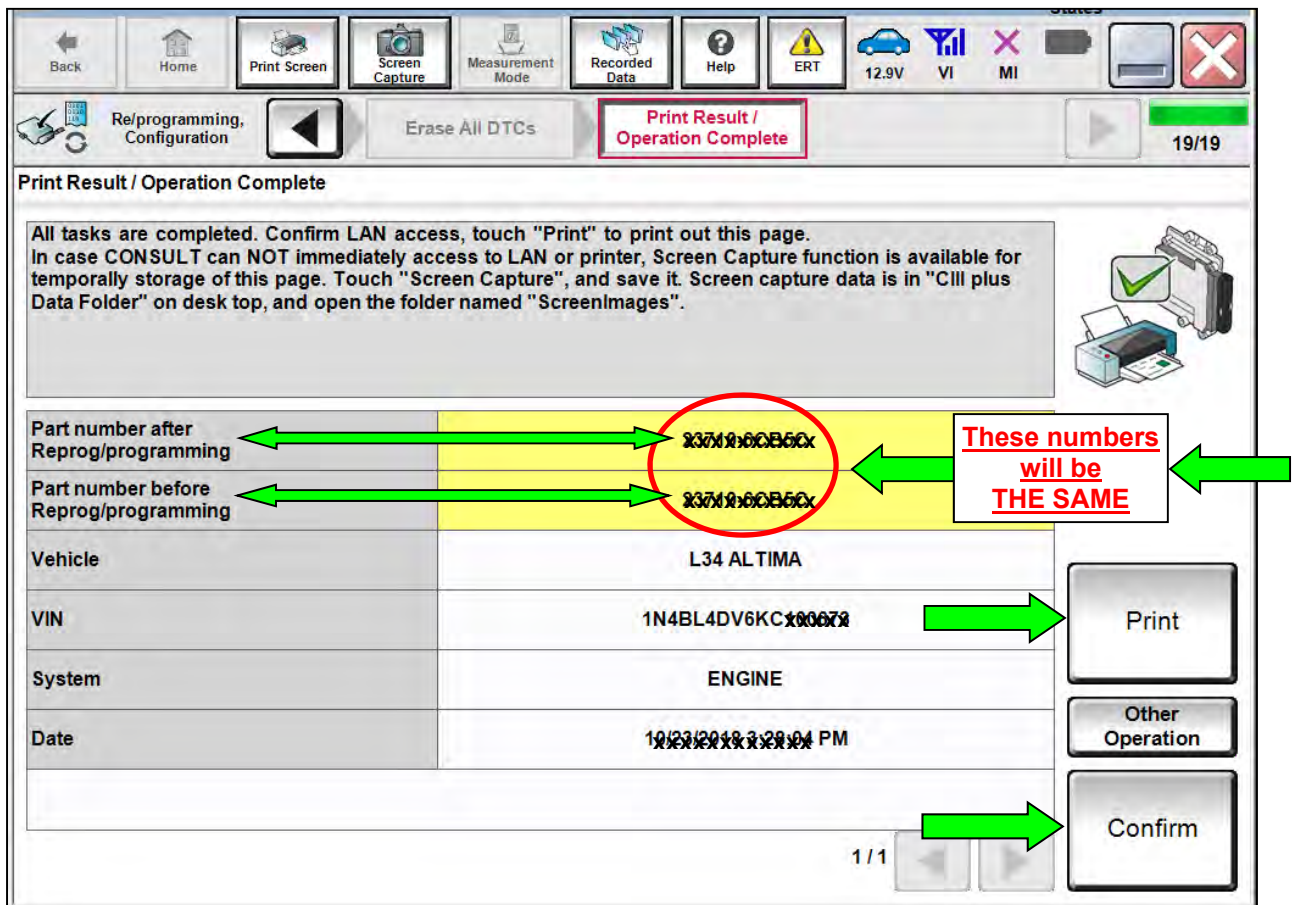

Figure 30
39. Figure 30: Verify the before and after part numbers are the same.
40. Figure 30: Print a copy of this screen (select **Print**) and attach it to the repair order.